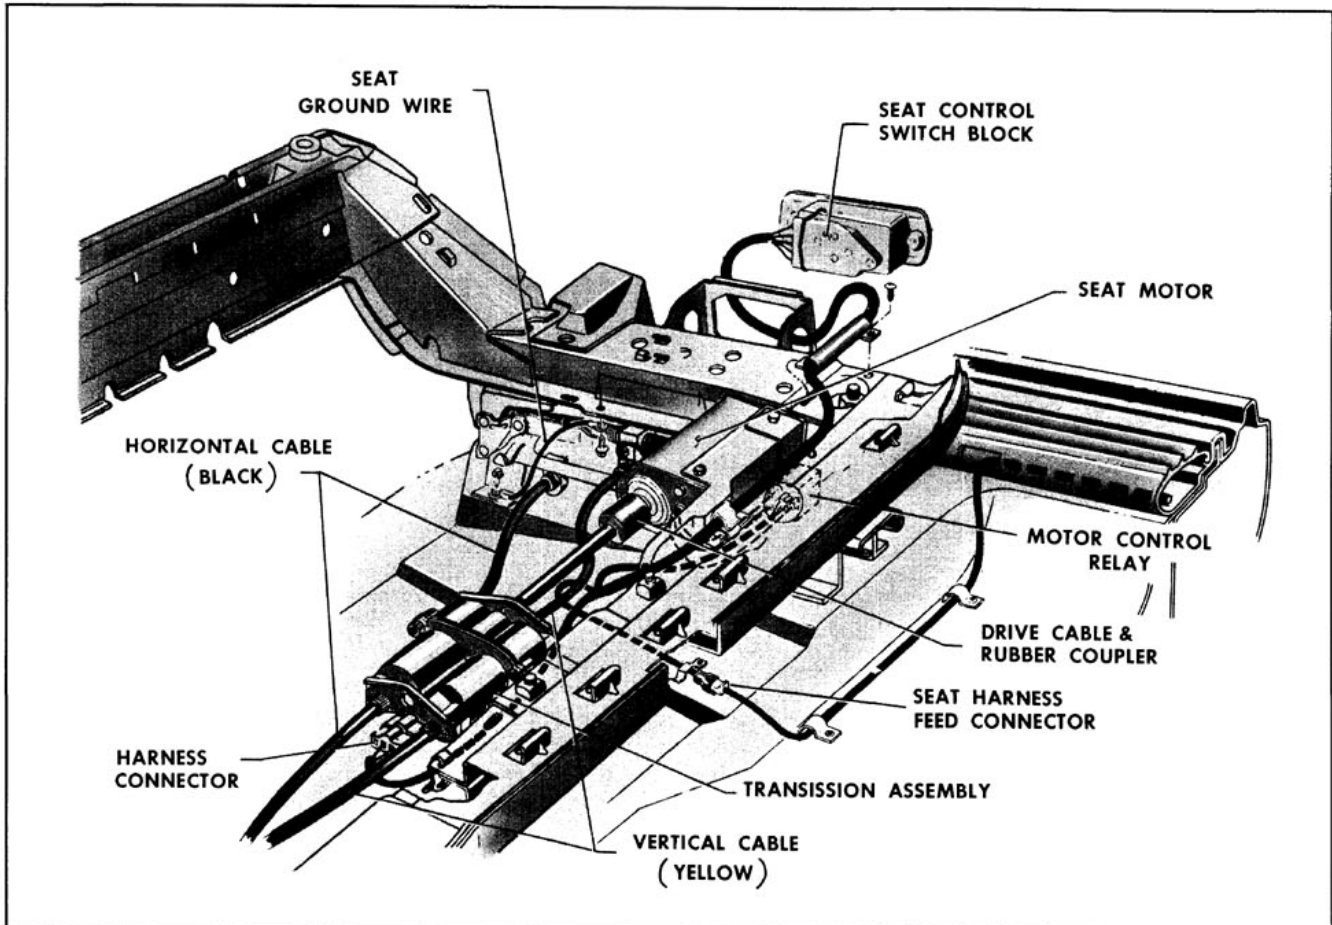

Fig. 16-95 Four-Way Seat Frame (Bench Type)
3. Remove screws securing horizontal and vertical cable end plate on side of transmission from which cables are being removed and remove cables from seat assembly. (Fig. 16-95)
2. Disconnect wire harness connector from transmission. (Fig. 16-95)